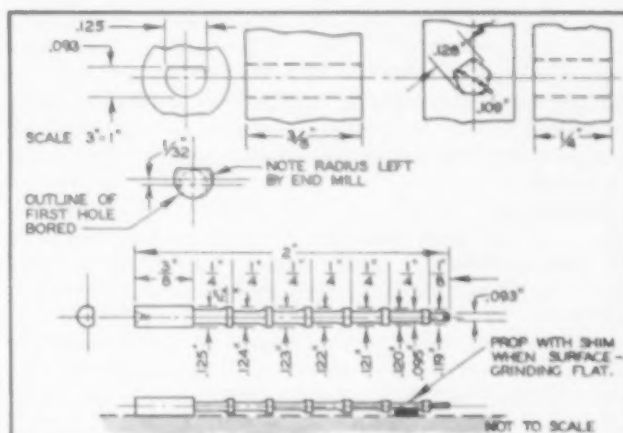

Fig. 1 (top); Fig. 2 (center); Fig. 3 (bottom).
**P**RODUCTION OF SMALL holes such as those shown in Fig. 1 demands careful selection of the most advantageous technique. If a depression is involved such as in a plastic molding die, hobbing might be used, and the material worked would be one of the soft hobbing steels. If holes of this shape are to be put in a tool where the stock is only one-eighth of an inch, filing the hole and working with a punch to get the desired shape is practical. But when the material for the job calls for a tough oil-hardening tool steel, such as for a blanking die or a sintered metal die, and the depth of the hole is one-quarter or three-eighths of an inch, then a different approach to the problem must be used to get an accurate hole, consistent with time-saving.
This hole (Fig. 1) has the shape of a circle, but with a flat side. The 0.093 in. hole is first drilled or bored offset  $1/32$  in. with the finished hole and then worked out to about 0.122 in., using an end-mill which has been ground extra long (from an end-mill in stock). If the job permits, half the depth can be worked from the other end. Of course the job could be set up on a vertical milling machine, or even a boring mill. But so far the shape of the finished hole has not been reached, as the end-mill leaves an undesired radius (Fig. 2). To finish the hole a broach is made (Fig. 3). The flat is ground after hardening, as are the flutes. Made this way the broach will cut fairly well. Use a good tool steel, such as those specified for cutting tools.